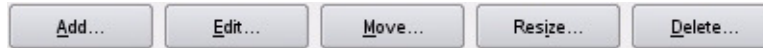

Figure 3-26 YaST2 – Add Button
5. Under **Hard Disks**, select the disk you would like to partition and click **Add** at the bottom of the screen (Figure 3-26).